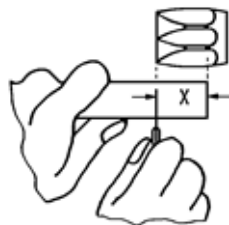

FIG 25.
- When the outside diameter of the hose is too large to screw into the socket, you must strip off the protective cover by cutting around the hose and down to the metal wire reinforcement, then cut lengthwise and pull off the cover. (Fig 25)